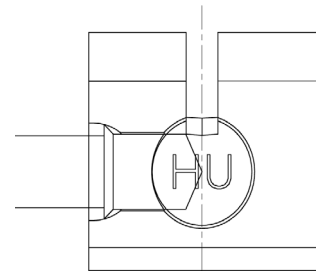
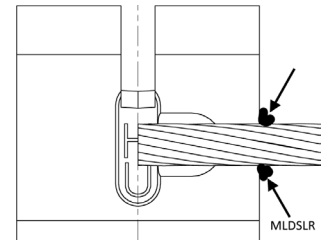

FIGURE 1 - DEAD END BOND TERMINAL
FIGURE 2 - DEAD END CONDUCTOR
3. Prior to locking the mold to the rail web: For field-made and pre-fabricated bond terminals with a flare, insert the bond-end into the mold until the sleeve flare prevents it from entering any further. See Figure 1. For bond terminals without a flare, insert the bond-end into the mold until the end of the cable is centered on the tap hole. For bare copper conductors, insert the end of the cable into the mold until it is centered on the tap hole. See Figure 2. Do not cut conductor for thru-connections of bare copper conductor. See Figure 3.
5. Mold Sealer (MLDSLR) is required when welding bare copper conductors without bond terminals. See Figures 2 and 3. Do not allow MLDSLR to contaminate inside of weld cavity, end of cable, or location on rail where weld will be performed. Failure to do so may cause the spewing of molten weld metal and porous welds. MLDSLR is not required for conductors with bond terminals.